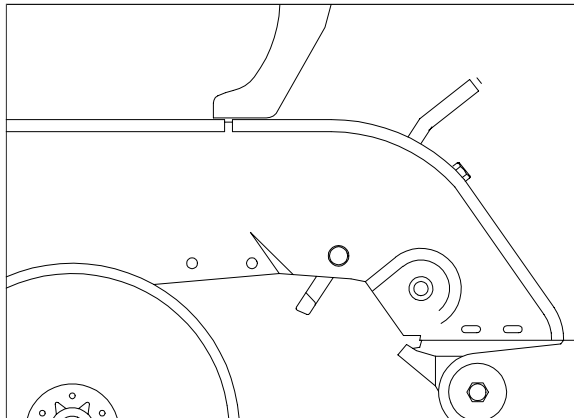
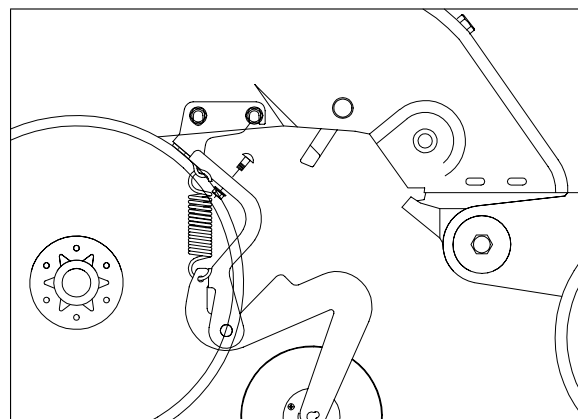

Figure 1
Figure 4
6. Secure the Seed-Lok™ mount by screwing the bolts (#1) with spacer (#2) through the opener body and into the flanged nuts (#4) on the inside of the mount (#3) see Figure 4.
5. Turn the mount to a vertical position and slide forward until the holes align with those of the opener body, Figure 1 through Figure 4, Page 6.